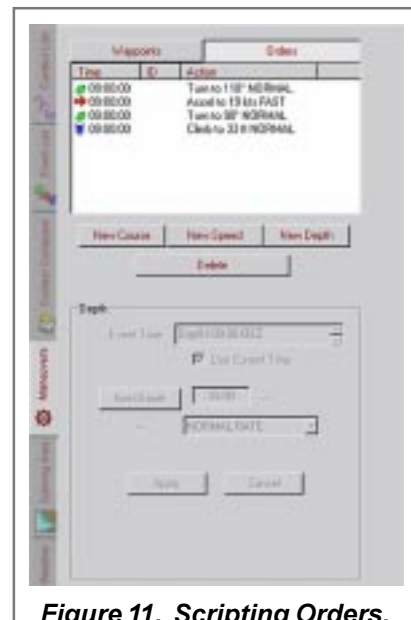

Figure 11. Scripting Orders.
■ **Waypoints.** Click the “Waypoints” button at the top of the “Maneuvers” tab (Figure 11). There are two methods to add a waypoint. Either click on the “New Waypoint” button and manually enter the information into the necessary fields, or right click in the GeoSit where a waypoint should be located. To move/modify a waypoint, left click on it and drag it around in the GeoSit or manually alter the LAT LONG values in the data field. Click “Apply” once the waypoint is positioned correctly.
■ **Orders.** Click the “Orders” button at the top of the “Maneuvers” tab. Select the platform from the dropdown menu at the base of the tab. To script a course change, click on the “New Course” button and enter the desired course and direction of turn of the platform. To script a speed change, click on the “New Speed” button and enter the desired speed and/or the acceleration rate of the platform. By clicking the “New Depth” button, depth and dive rate can be entered. After each new order, click on the “Apply” button, for it to be added to the list of orders in the task window (refer to Figure 11). You can schedule the order to execute in the present or in the future. If you want an order to take effect immediately, then click the “Use current time” box.